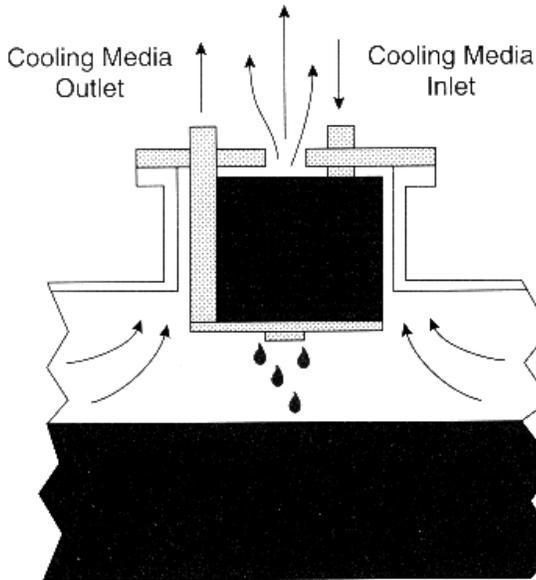

Fig. 3a
- Condenser design, which comes in three typical configurations. Each depends on the process and vessel's discharge connection (Figs. 3a, 3b, 3c).
Condenser design with helical bundle mount inside vessel's discharge flange is typical of reflux-condensing applications. (Fig. 3a)